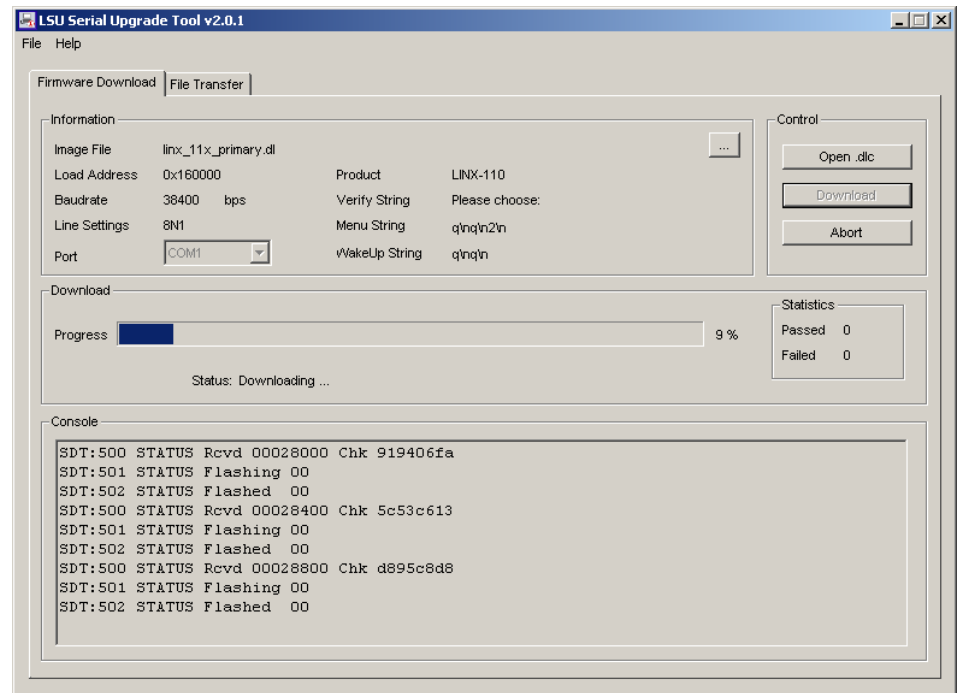

Figure 293: Progress Bar during Firmware Download.
2. If the device is not connected to COM1 you can change the port to COM2, COM3, or COM4. Make sure that the product shown under "Product" matches the device you are upgrading. Press **Download** to start the download. A progress bar as shown in Figure 293 can be seen.